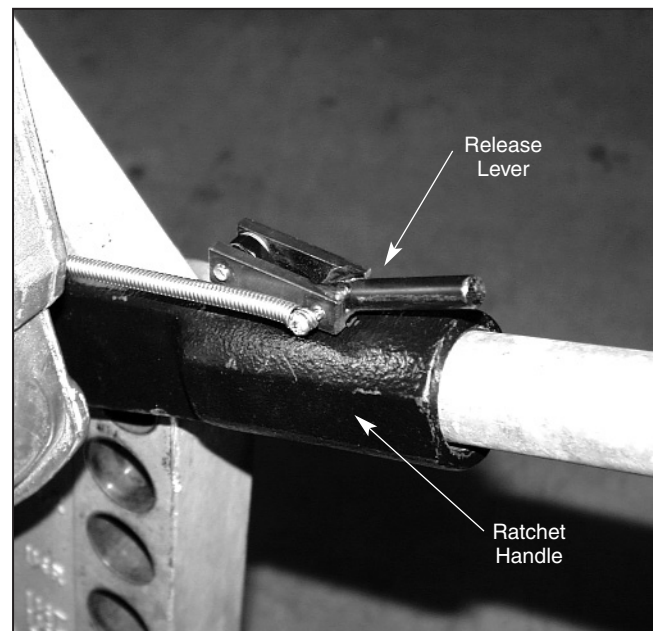

Fig. 13
- Move the ratchet handle up until the pawls "click" together and release the shoe teeth, figure 13.